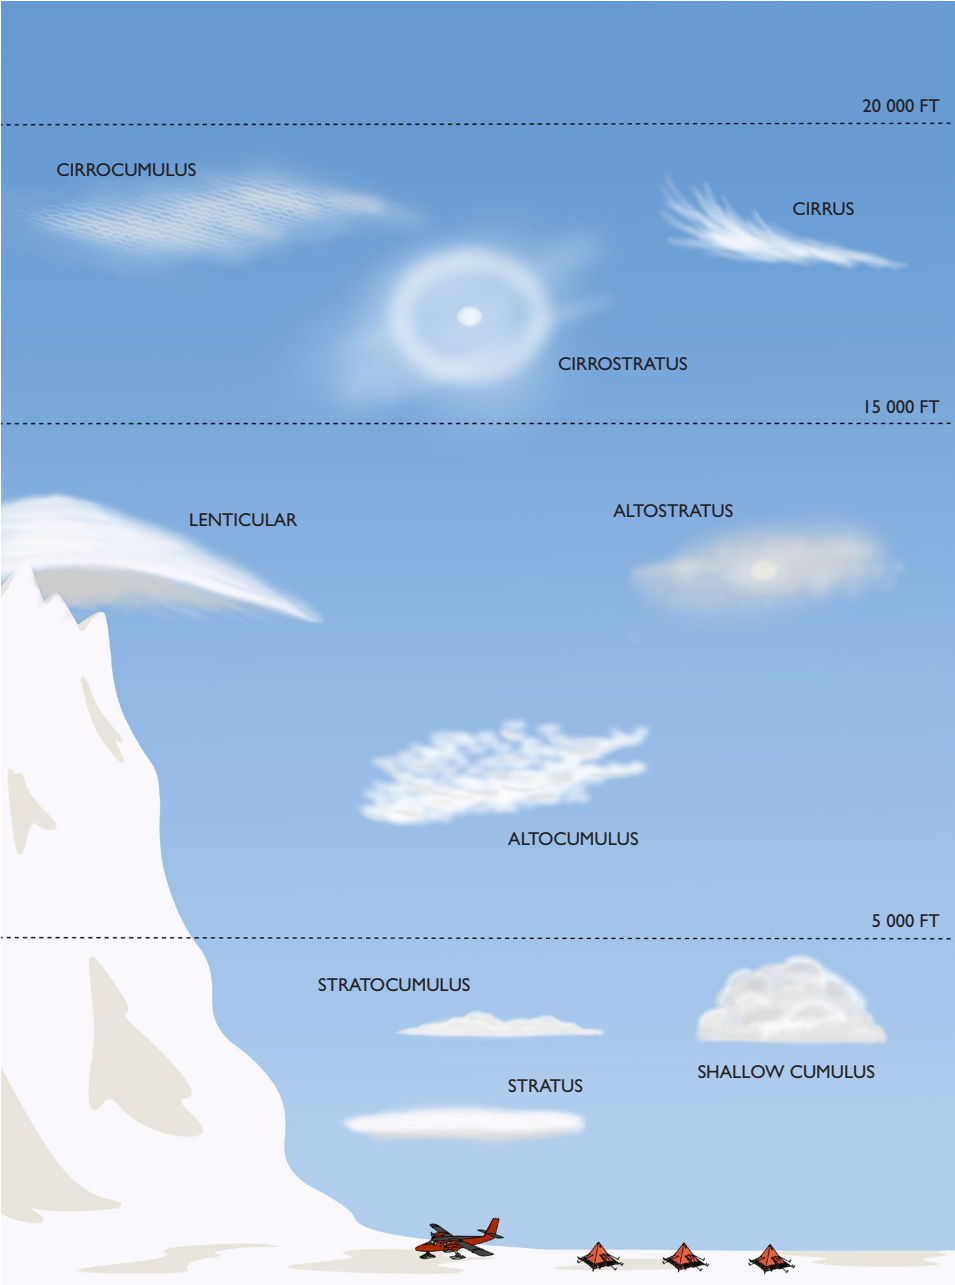

Figure 62 – Cloud heights
is at 2,000 feet, and there is a layer of the cloud level with the summit of a mountain at 3,000 feet, then the cloud should be reported as being at 1,000 feet (010), meaning that it is 1,000 feet above the skiway. On ice shelves, cloud heights can be very difficult to estimate and you must use other clues to estimate the height. The cloud height must be estimated from such clues as the size of the elements (the smaller the cloud elements appear, the higher the cloud) and the speed of the cloud (the faster the cloud seems to move, the lower the cloud). See Figure 62 for details of the typical heights of clouds. **62**